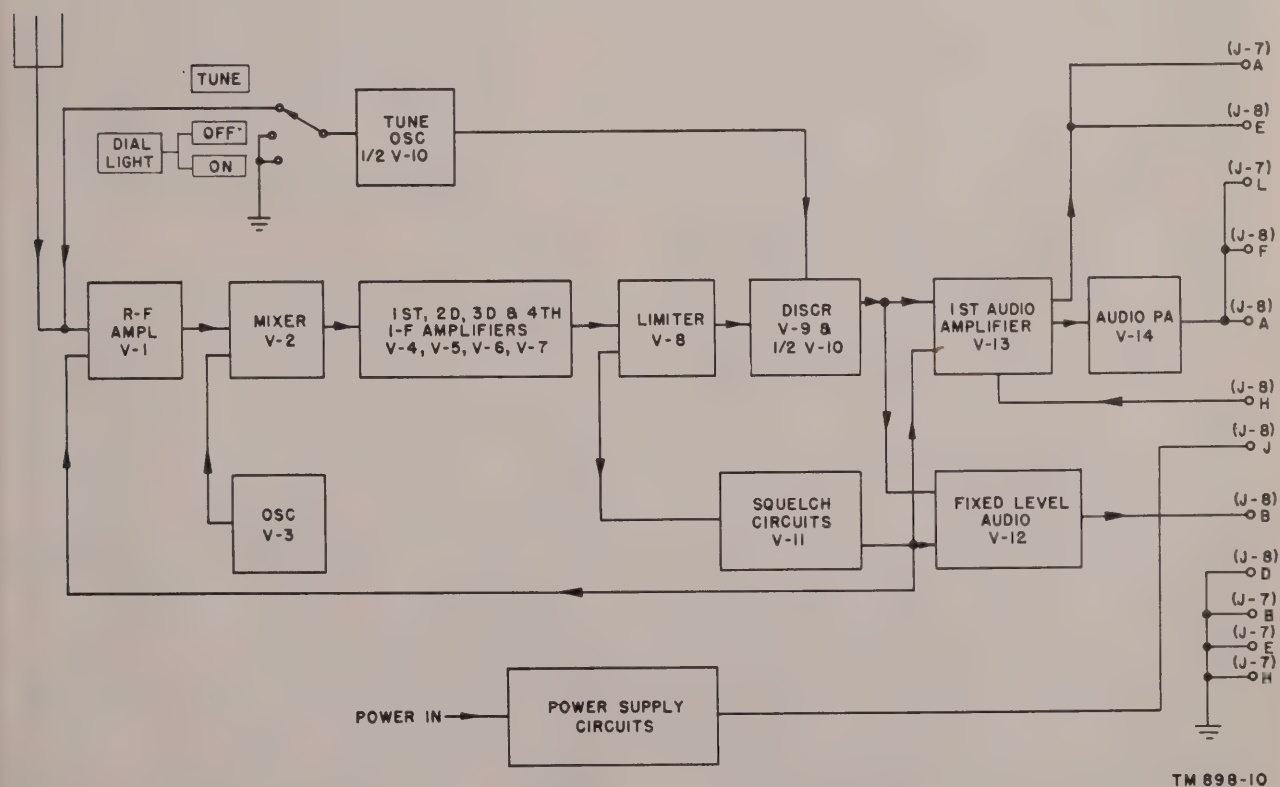

Figure 41. Auxiliary receiver, block diagram.
85. Auxiliary Receiver (fig. 41)
The block diagram (fig. 41) is representative of Radio Receivers R-108/GRC, R-109/GRC, and R-110/GRC. Each receiver is of the single-conversion, superheterodyne type, designed to receive f-m signals. The receivers differ in frequency range, as indicated in the frequency spectrum chart (fig. 2).